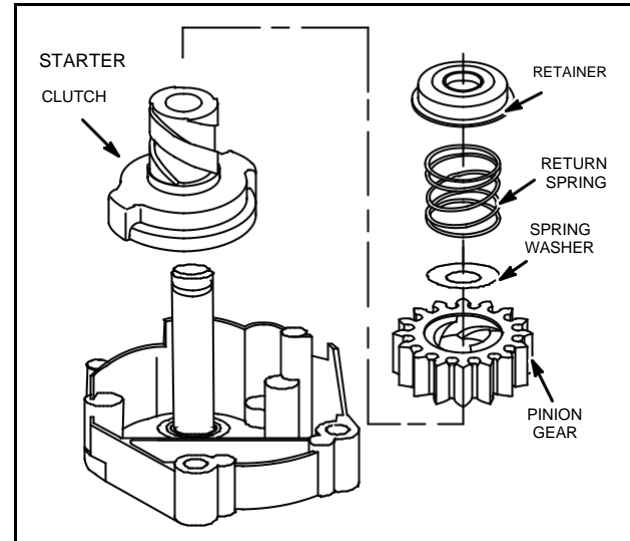

Fig. 19 – Assembling Starter Drive
**NOTE:** Do not oil or grease helix or starter gear. See Fig. 19, Fig. 21 and Fig. 22, for proper location of parts.
1. Assemble starter clutch to starter shaft and rotate clutch until it drops into place, Fig. 19.